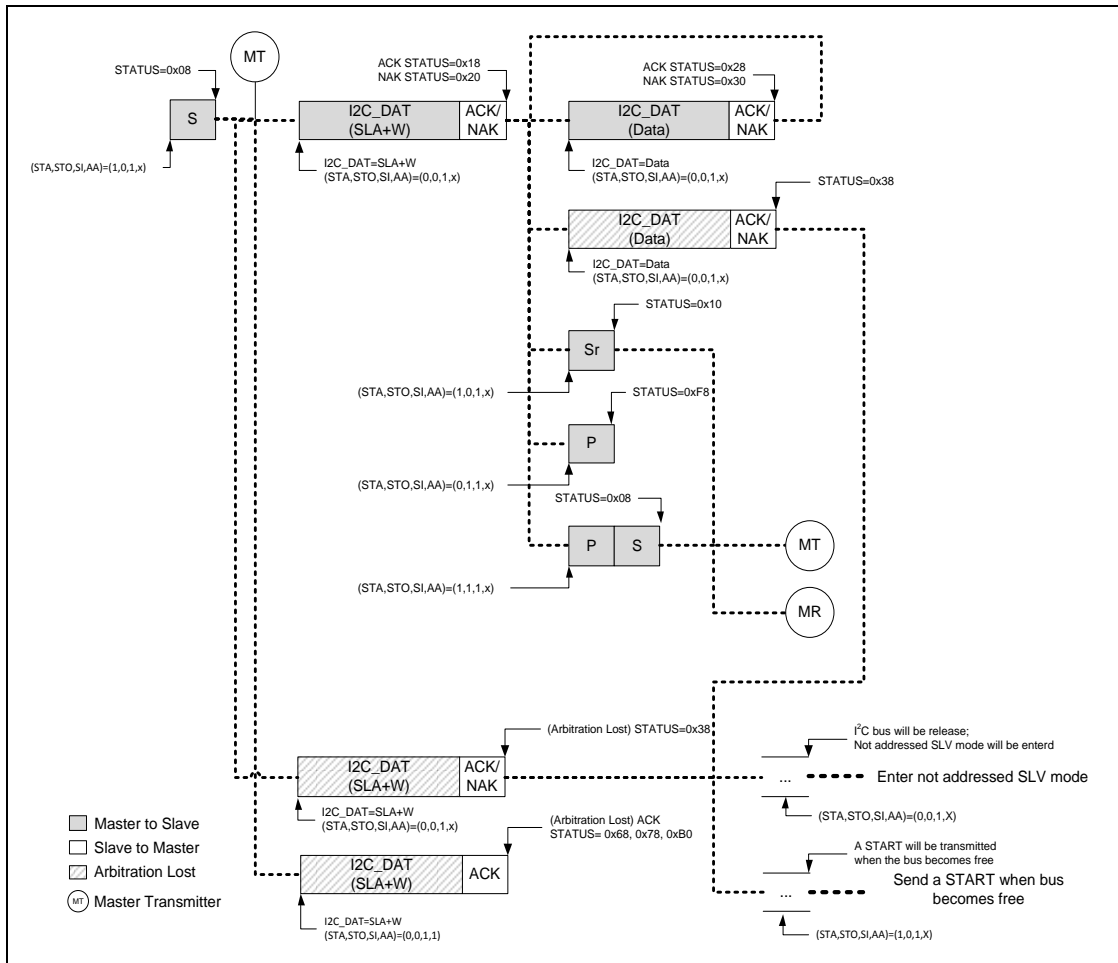

Figure 6.15-10 Master Transmitter Mode Control Flow
In Figure 6.15-10 and Figure 6.15-11, all possible protocols for I²C master are shown. User needs to follow proper path of the flow to implement required I²C protocol.
In other words, user can send a START signal to bus and I²C will be in Master Transmitter (MT) mode (Figure 6.15-10) or Master receiver (MR) mode (Figure 6.15-11) after START signal has been sent successfully and new status code would be 0x08. Followed by START signal, user can send slave address, read/write bit, data and Repeat START, STOP to perform I²C protocol.